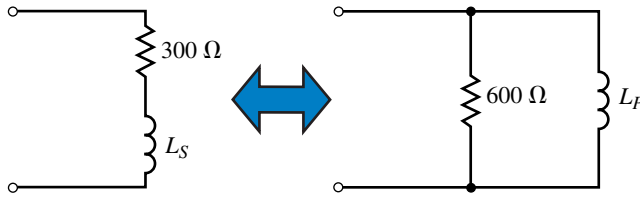

FIGURE 21-63
21. Determine the values of L_s and L_p in henries, given that the networks of Figure 21-63 are equivalent at a frequency of 250 krad/s.